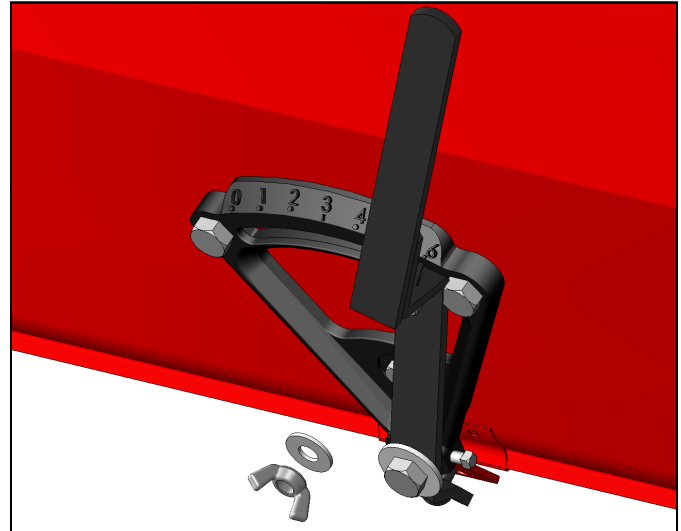

Figure 4-10 Control handle at 6
2. Move the handle to "0". Holes in the box should be completely covered. If not, continue to step 3. See Figure 4-10.